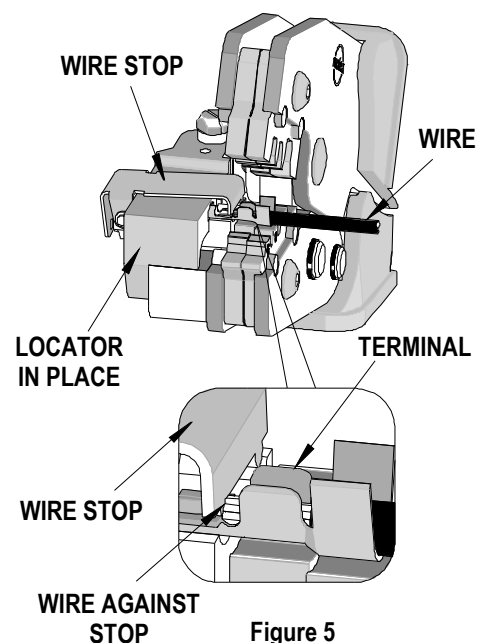

Figure 5
5. Insert the proper wire over the terminal. Some large O.D. wires may need to be placed into the terminal before closing the tool. Gently touch the wire stop with the end of the wire. See Figure 5.
8. Insert the proper wire over the terminal. Some large O.D. wires may need to be placed into the terminal before closing the tool. Gently touch the wire stop with the end of the wire. See Figure 5.